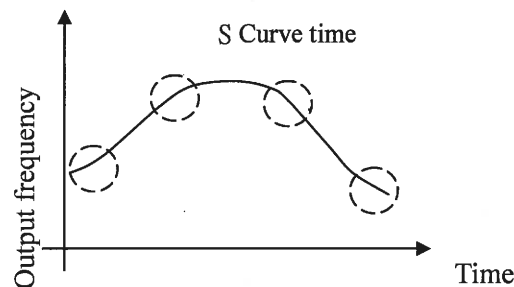

Figure 4-7 S-Curve characteristics
- 6.) When S curve time (A023/A024) is greater than 0, the acceleration and deceleration action is as shown in figure 4-7.